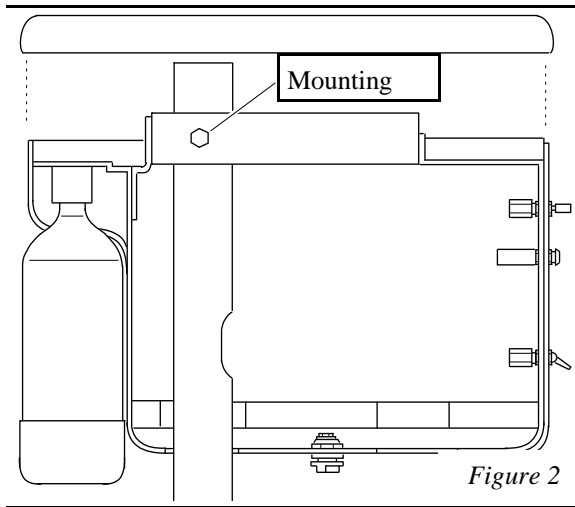

Figure 2
3. Install the post mount utility center on the post (Figure 2).
6. One end of the fiber optic handpiece tubing has a nut attached. Hang the nut in one of the handpiece holders on the control head. Route the other end of the tubing (with the fiber optic bundle and ground wire) into the control head, through the hole indicated in **Figure 2**. Cut the handpiece tubing to the desired length and connect to the handpiece block.
7. Route the fiber optic bundle and ground wire through the hole indicated in **Figure 2**, along the short control arm, through the knuckle at the end and along the bottom of the flex arm. Feed them through the knuckle at the end of the flex arm and bring them out through the open end of the rigid arm, next to the 1/8"orange tubing.